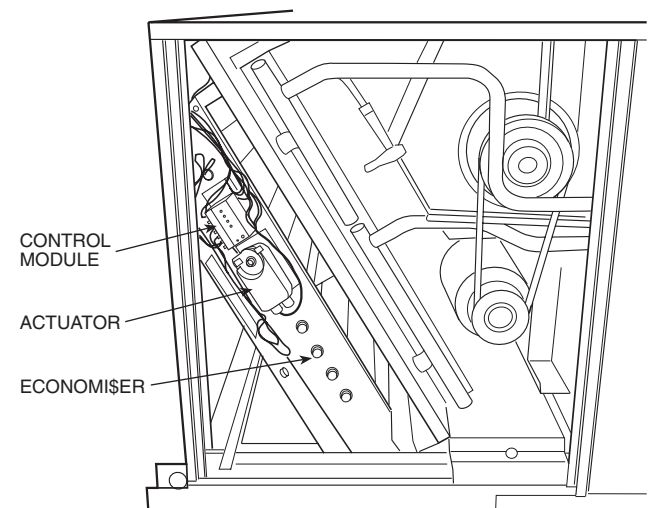
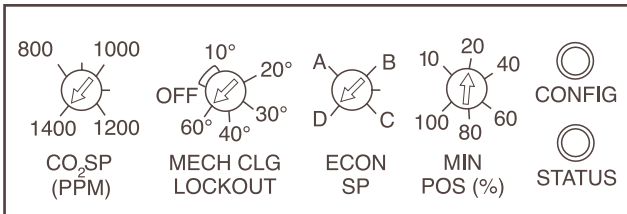

Fig. 15 — EconoMi\$er Damper Assembly — End View
Fig. 16 — EconoMi\$er Control Module Adjustment Potentiometers
EconoMi\$er Motor Control Module (Fig. 15-17) — Set the ECONSP dial to the “D” setting (Fig. 16). The control module is located on the EconoMi\$er motor. See Fig. 15 and 17.
2. Locate the CO₂ SP (PPM) potentiometer and adjust to the desired set point. See Fig. 16.
MECHANICAL COOLING LOCKOUT — Determine the outdoor-air temperature at which you want the mechanical cooling (compressors) to be disabled. Locate the mechanical cooling lockout (MECH CLG LOCKOUT) potentiometer. To disable this feature, turn the potentiometer counterclockwise (CCW) to the OFF position. Otherwise, set the value between 10 and 60 F. Mechanical cooling will not operate when the outdoor air temperature is below this value. See Fig. 16.
DRY BULB CHANGEOVER SET UP — Determine the dry bulb changeover set point from Table 5. The settings are A, B, C and D. Locate the ECON SP potentiometer and set the dry bulb changeover set point. See Fig. 16. When the OAT is above this set point, the damper is limited to minimum position setting.
2. Locate the minimum position (MIN POS) potentiometer. Turn the potentiometer full CCW to fully close the outdoor air dampers. Turn the potentiometer gradually clockwise (CW) to the desired position. See Fig. 16.